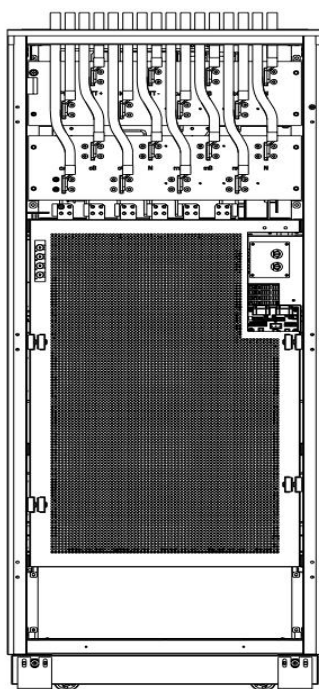
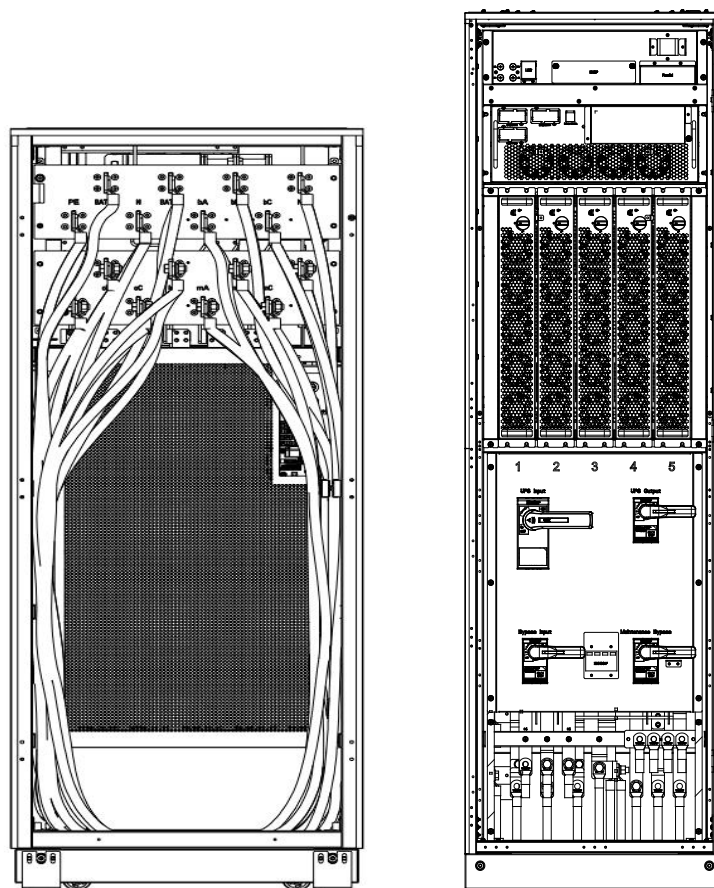

Figure 3-10 Diagram of Top Cable Entry
Figure 3-11 Diagram of bottom Cable Entry (Left: 1 switch; Right: 4 switches)
The cabinet support enters from both the top side and the bottom side. The cable entry is shown in Figure 3-10. The bottom entry mode and dimensions of the system are shown in Figure 3-11.
Step 4: Connect the AC main input cable to the input terminal (mA, mB, mC, N); Connect the AC bypass input cable to the bypass input terminal (bA, bB, bC, N); Connect the output cable to the output terminal (oA, oB, oC, N) as figure 3-10 or 3-11;